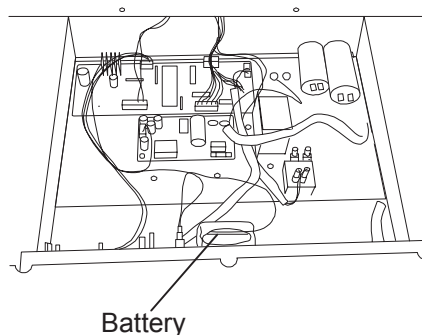

Fig. 3
3. Disconnect the battery connector and remove 2 screws fixing the battery mounting plate. (Fig. 3)